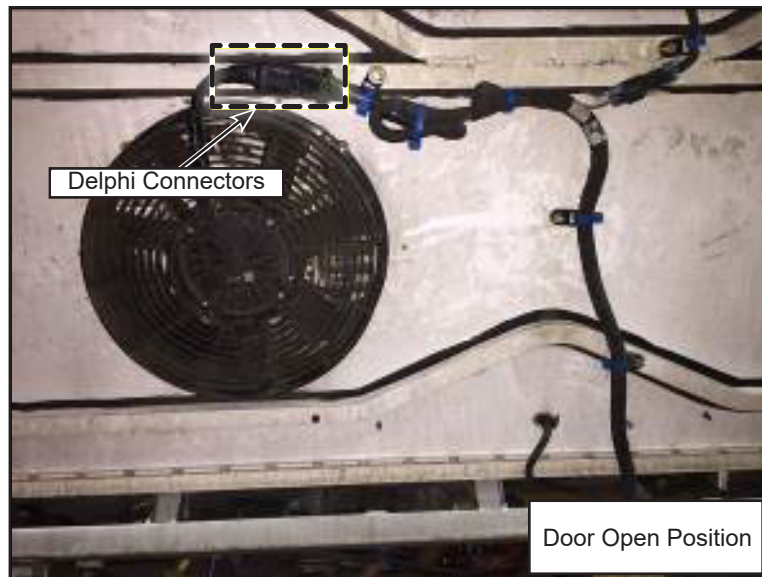

Figure 2 - Typical Engine Door Fan Delphi Connectors Installation
- 1.7. Open the engine compartment door and locate the engine fan Delphi connectors (see figure 2).